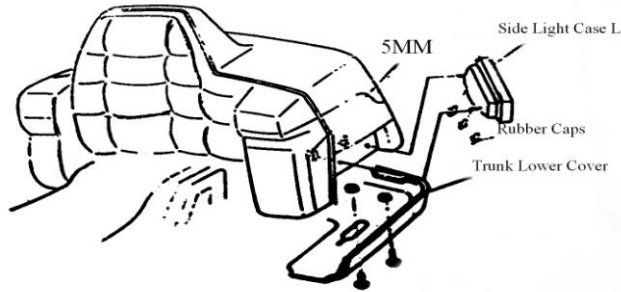

Fig 1
1. Remove the trunk lower cover per service manual Instructions. **Fig 1**